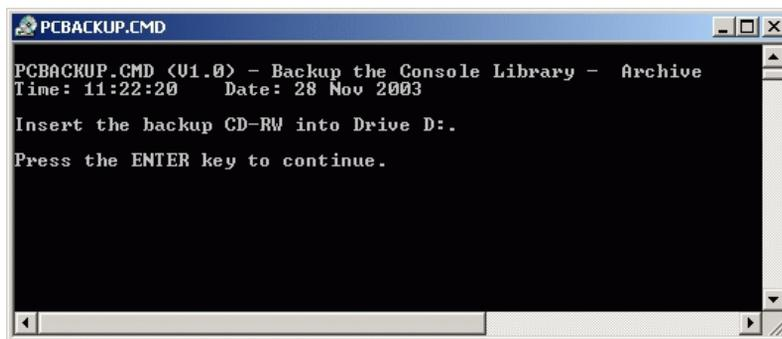

Figure 42 PCBACKUP.CMD Window
3. The *PCBACKUP.CMD* window displays (Figure 42).